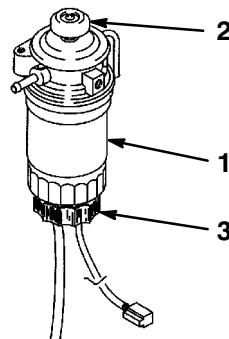

Figure 20
3. Open the drain plug on the fuel filter/water separator approximately one turn and drain any accumulated water. If necessary, operate the priming pump to drain water (Fig. 20). Tighten the plug after draining.